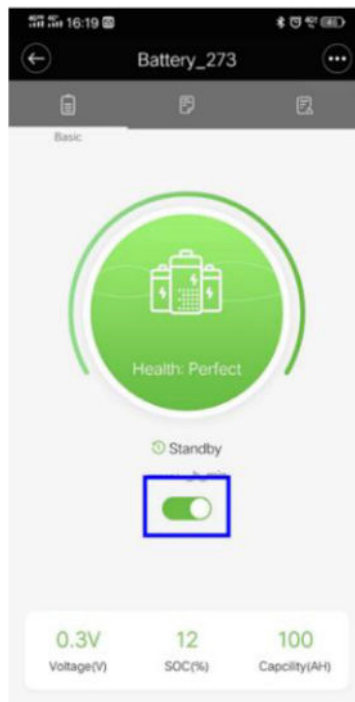

Figure 20: HAB™ iT Basic Screen Slider Switch
- On the HAB™ iT Basic screen flip the slider-like switch highlighted in blue shown in Figure 20: KiloVault® HAB™ iT Basic Screen Slider Switch. The status should change to “No charge or discharge.”